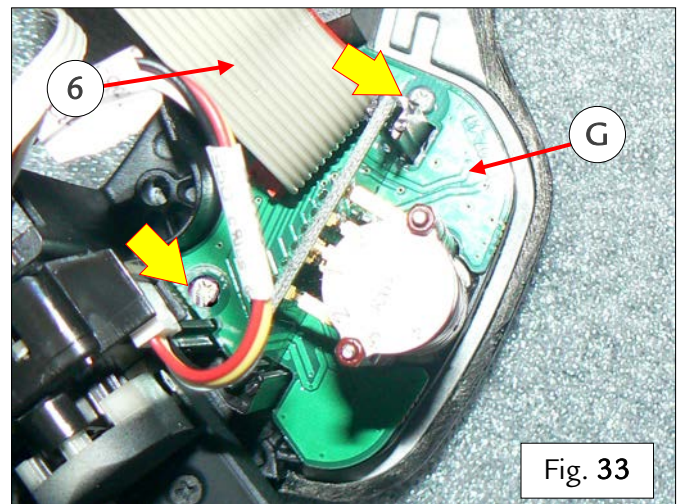

Fig. 33
- Fasten the Manettino rotary selector (G), tightening the indicated screws to a torque of 0.32 Nm - Fig. 33.
- Connect the connector (6) to the Manettino rotary selector - Fig. 33.